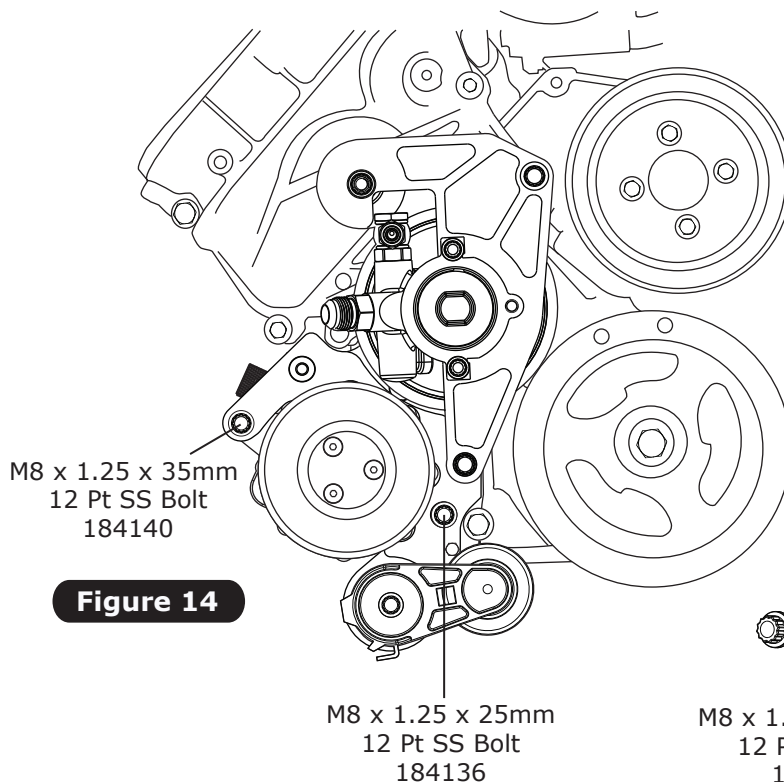

Figure 14
1. Install A/C compressor onto lower bracket in a diagonal motion using two M8 x 1.25 x 35mm 12 pt SS bolts and one M8 x 1.25 x 25mm 12 pt SS bolt. Torque bolts to 24 ft-lbs (See Figures 14 & 14a, below).